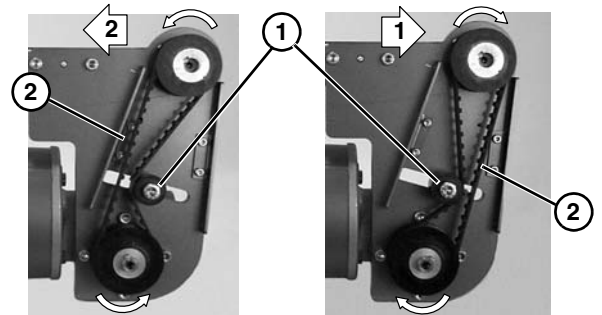

Figure 19
3. Depending on conveyor belt travel (direction 1 or 2), locate timing belt tensioner (**Figure 19, item 1**) as shown. Tension timing belt to obtain 0.125" (3 mm) deflection for 1.0 lb (456 grams) of force at timing belt mid-point (**Figure 19, item 2**). Tighten tensioner screw to 103 in-lb (12 N-m).